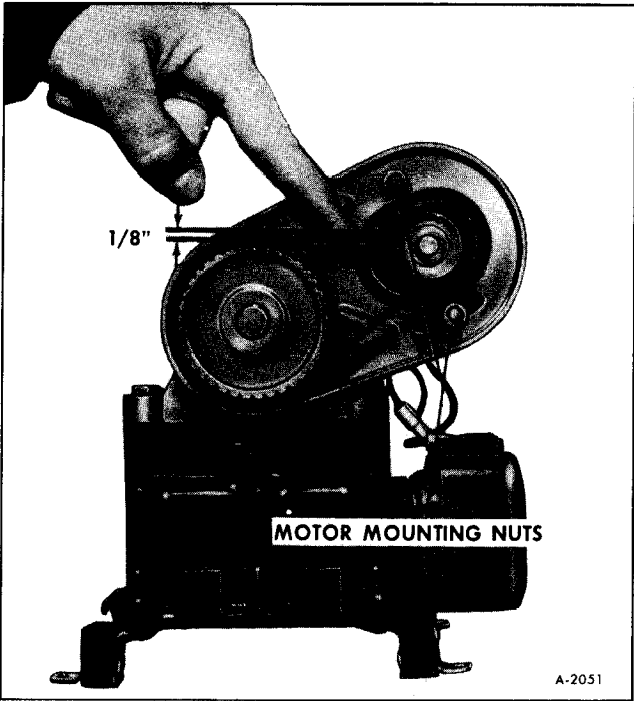

Figure 2--Water Pump Belt Tension
To obtain maximum life from the water pump belt it should be adjusted to obtain 1/8" deflection as shown in Figure 2.
1. Remove two (2) nuts as shown in Figure 2 and remove belt.
3. Remove two (2) screws securing motor mount to the jack shaft assembly.